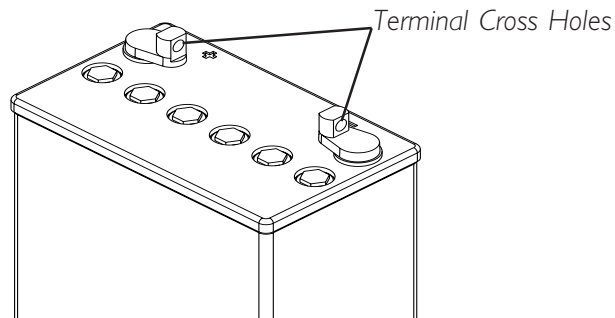

FIGURE 1 - USING THE PROPER BATTERIES - 22NF
USING THE PROPER BATTERIES (FIGURES 1 AND 2)
4. Visually inspect the battery to ensure the correct position of the positive and negative terminals, as shown in FIGURES 1 AND 2: